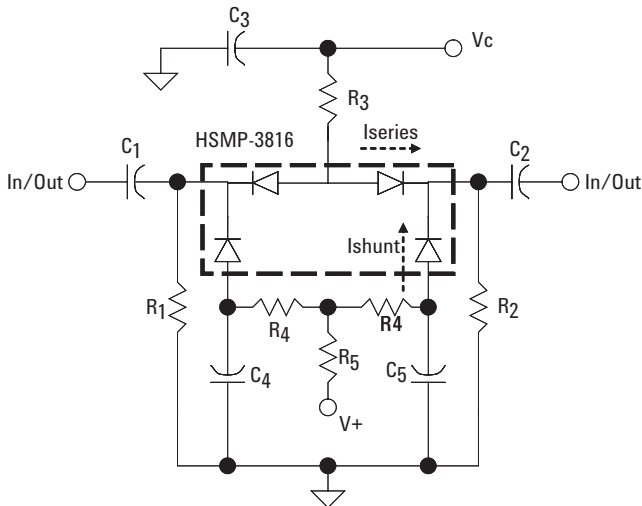

Figure 1. Wideband Quad PIN Diode  $\pi$  Attenuator Circuit
3. The Max Input Power is tested using demoboard as shown in Figure 1 at the worst-case (highest attenuation) bias condition of V+=5V, Vc=0V.
1. Measurement above obtained using Wideband RF circuit design shown in Figure 1 & 2
1. Measurements above were obtained using Wideband RF circuit design shown in Figures 1 and 2.